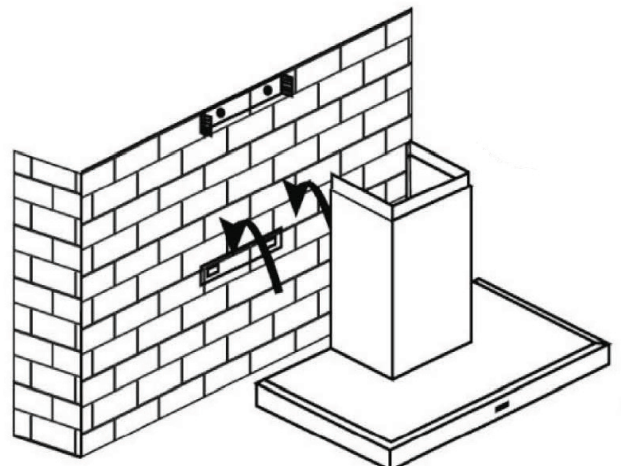

Figure 5
- Hang the range hood on the hooks of the lower mounting bracket (See Figure 5).